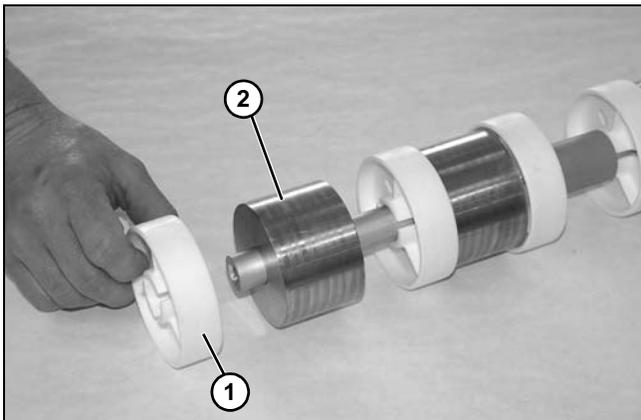

Figure 107
7. Remove idler puck (Figure 107, item 1) and weight (Figure 107, item 2) off of shaft, as needed, from belt.